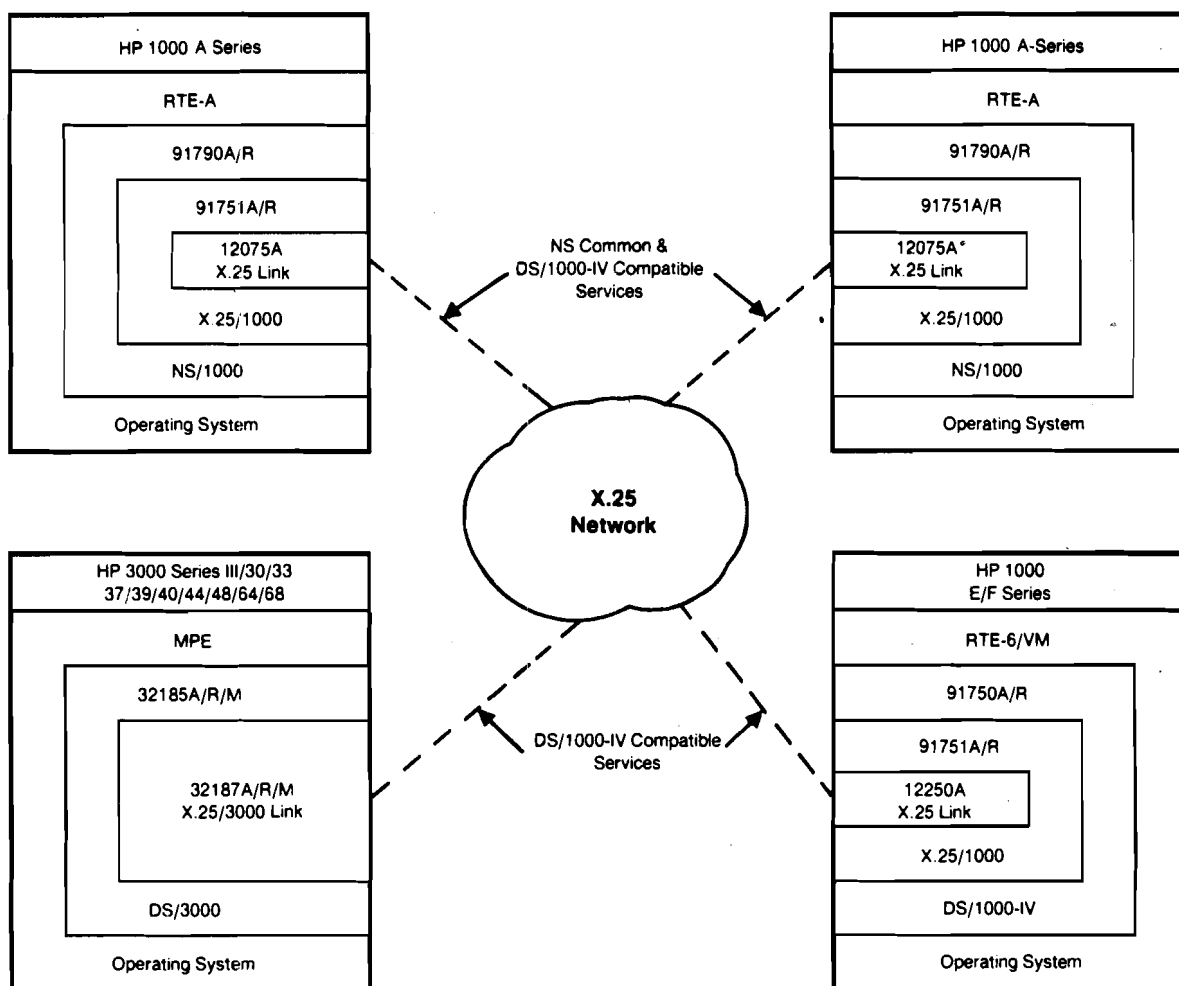

Figure 4. X.25 Connections
X.25 LAP-B modem interfaces provide the physical interface (X.25 bis, level 1) and the frame interface (LAP-B, level 2) of the CCITT X.25 recommendation. These microprocessor based interfaces handle all LAP-B protocol generation including CCITT compatible CRC error checking, onboard buffer management, and all modem control tasks. X.25 based configurations are most desirable when connecting HP 1000s to public or private X.25 packet switched networks. The bandwidth sharing nature of X.25 networks causes them to be highly cost effective wide area network solutions. For specific information on using X.25 interfaces, see Figure 4. For supported modems and X.25 software, see the X.25/1000 data sheet in Section 4 of this handbook and the Technical Interface Products Sales Guide (P/N 5953-5007).